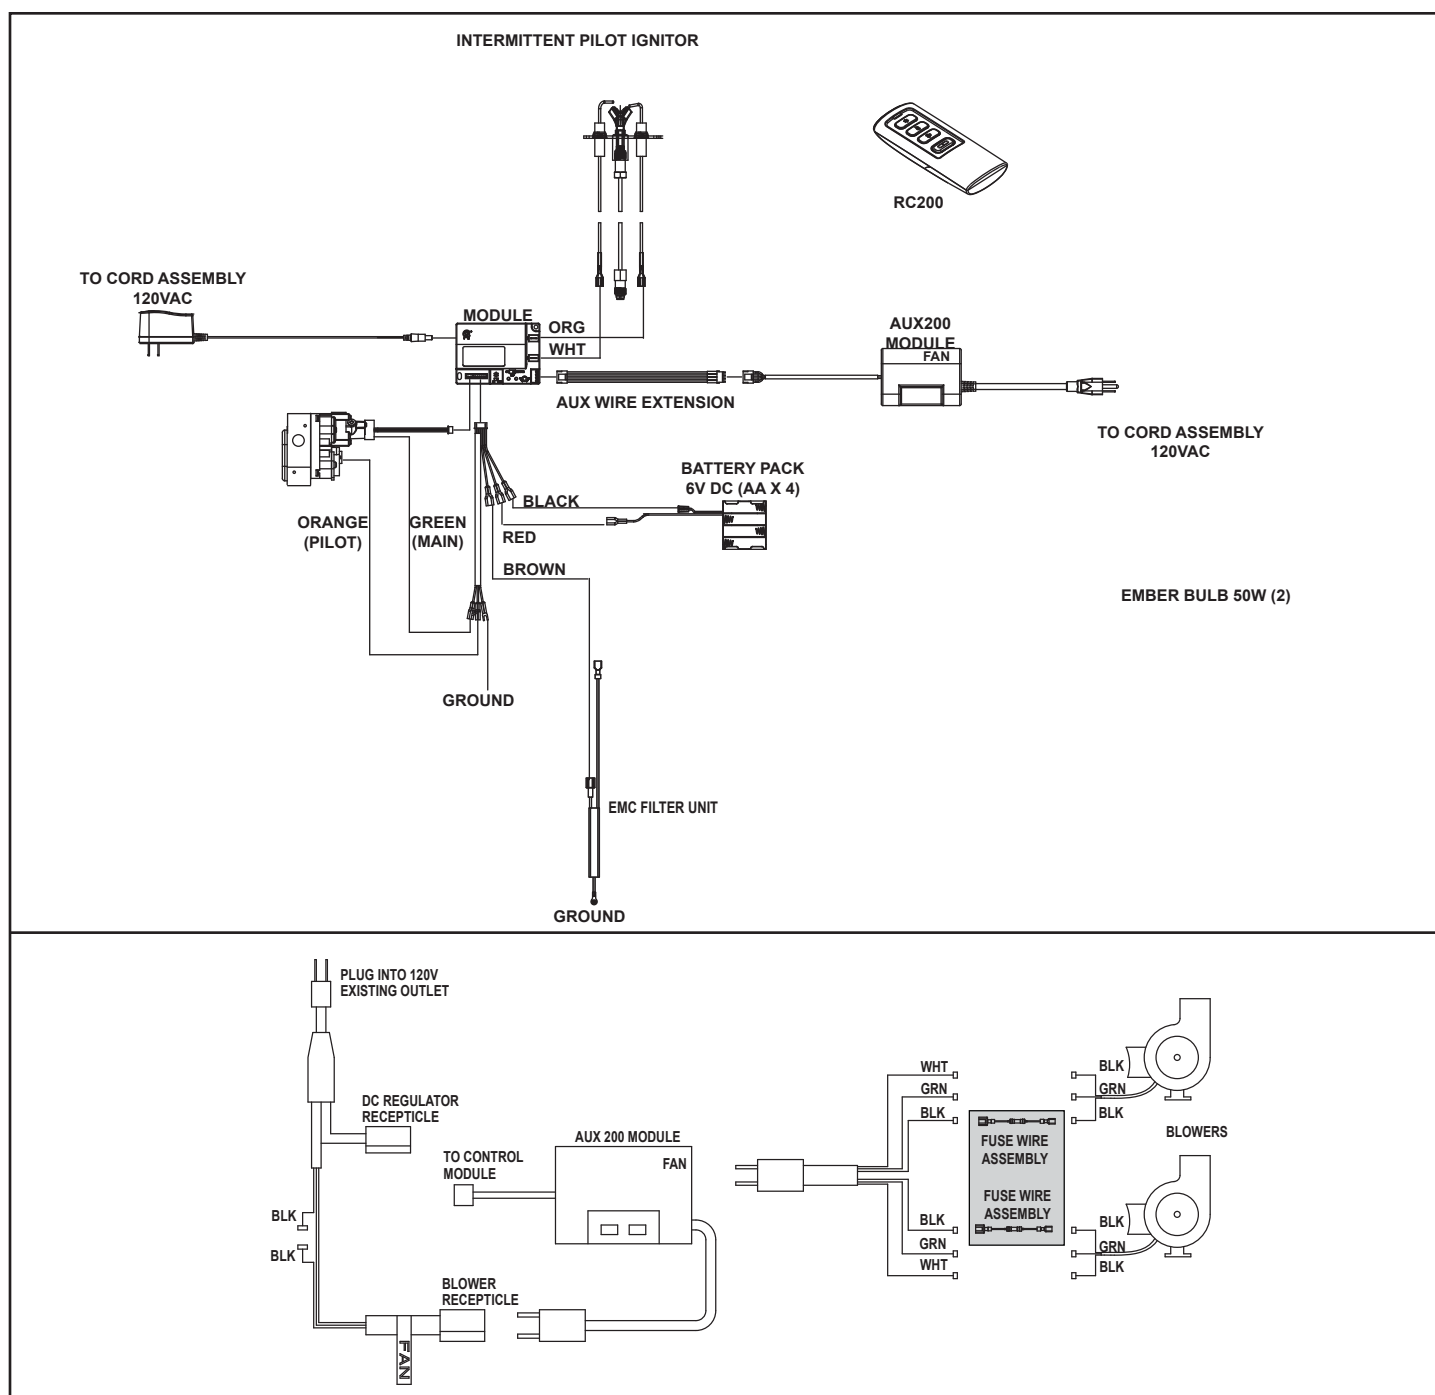

Figure 8.1 IntelliFire™ Plus Pilot Ignition (IPI) Wiring Diagram and Fan Wiring Diagram
- Refer to Figure 8.1, IPI Plus Wiring Diagram.